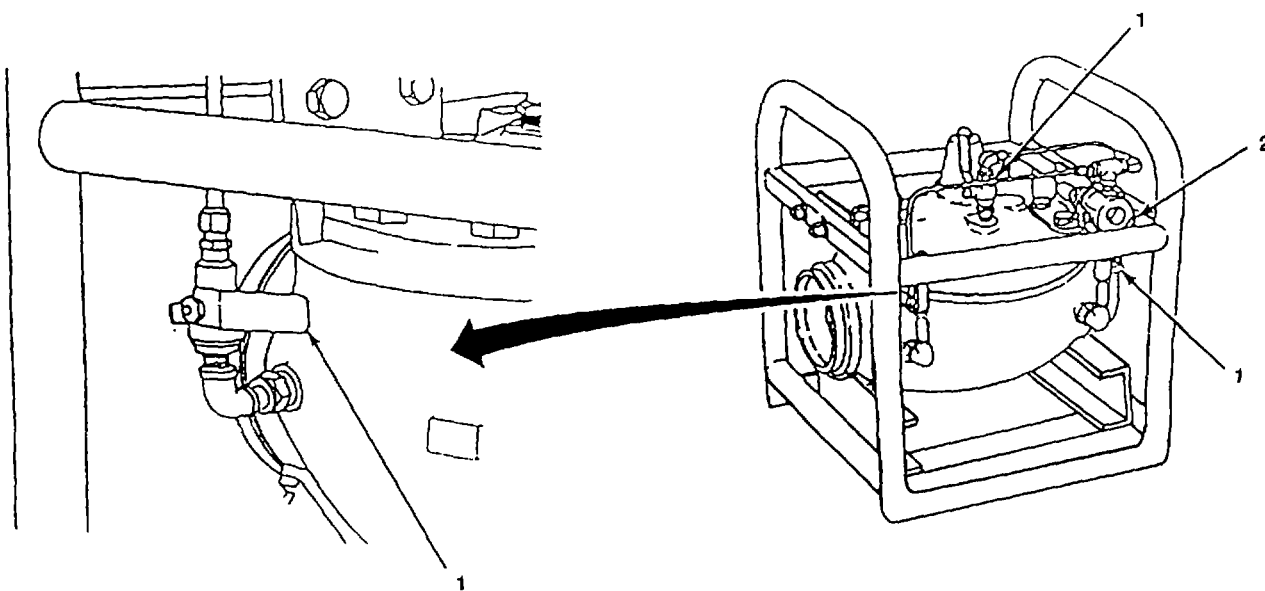

Figure 1-11. Pressure-Reducing Valve
- (14) **PRESSURE-REDUCING VALVE (Figure 1-11).** Skid-mounted. Protects hoseline and other components from excess pressure. Installed in hoseline where water pressure is expected to exceed 225 psi (1551 kPa). Equipped with boltless fittings at inlet and outlet ports for attachment to hoseline. Preset to release outlet pressure at a rate of 75 psig (517 kPa). Three isolation cockvalves (1) are manually operated to isolate pressure-reducing valve control (2).